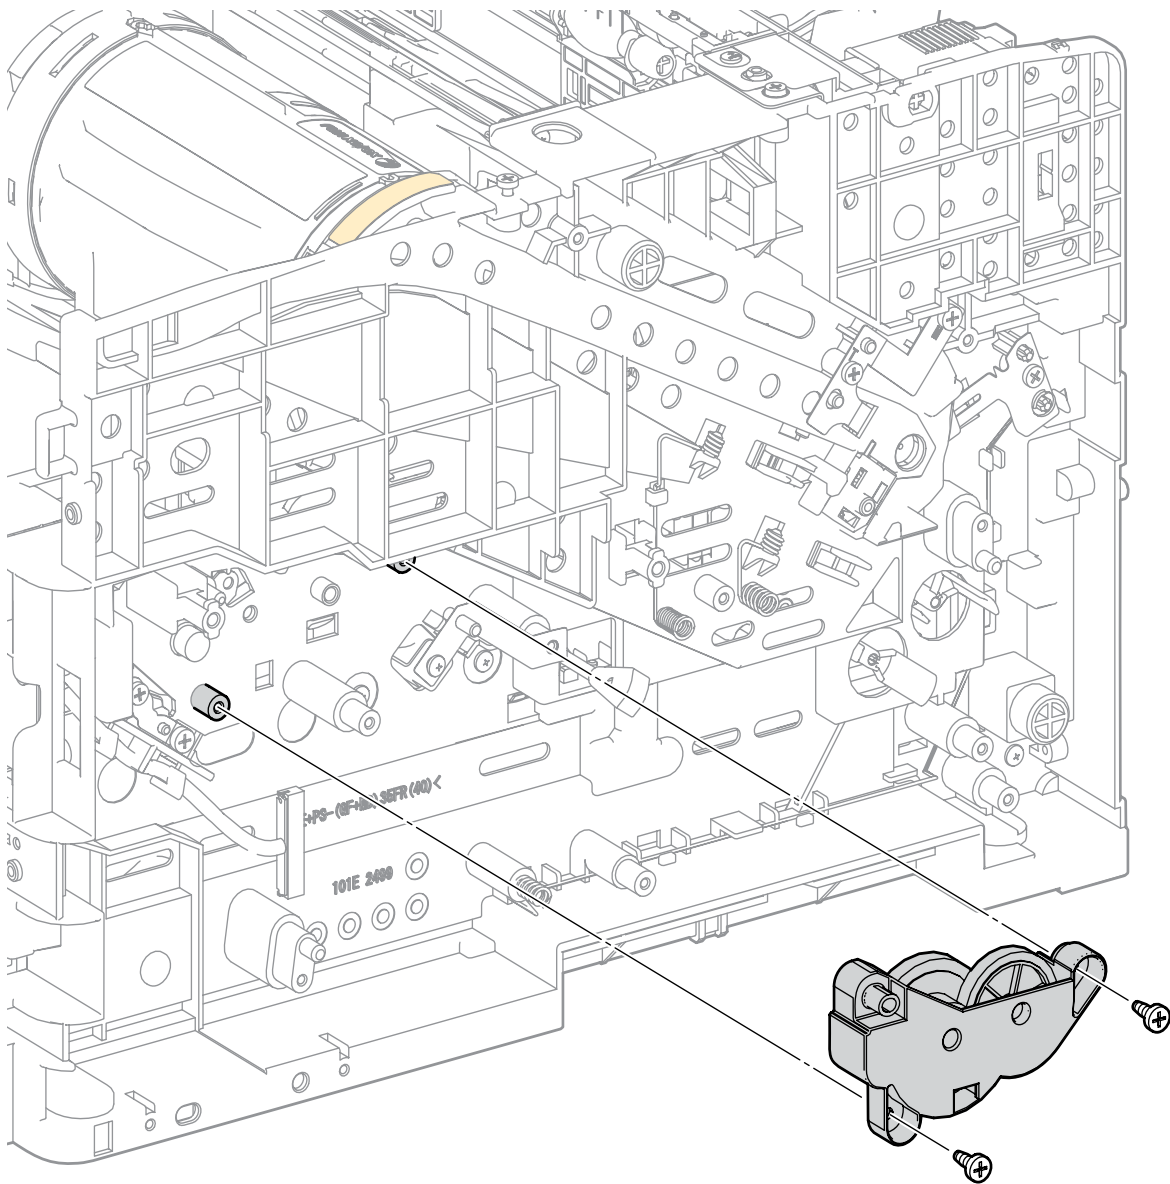

Figure 2
6. Remove 2 screws (silver, tapping, 8mm) that secure the Dispense Drive Assembly to the chassis. (Figure 2)